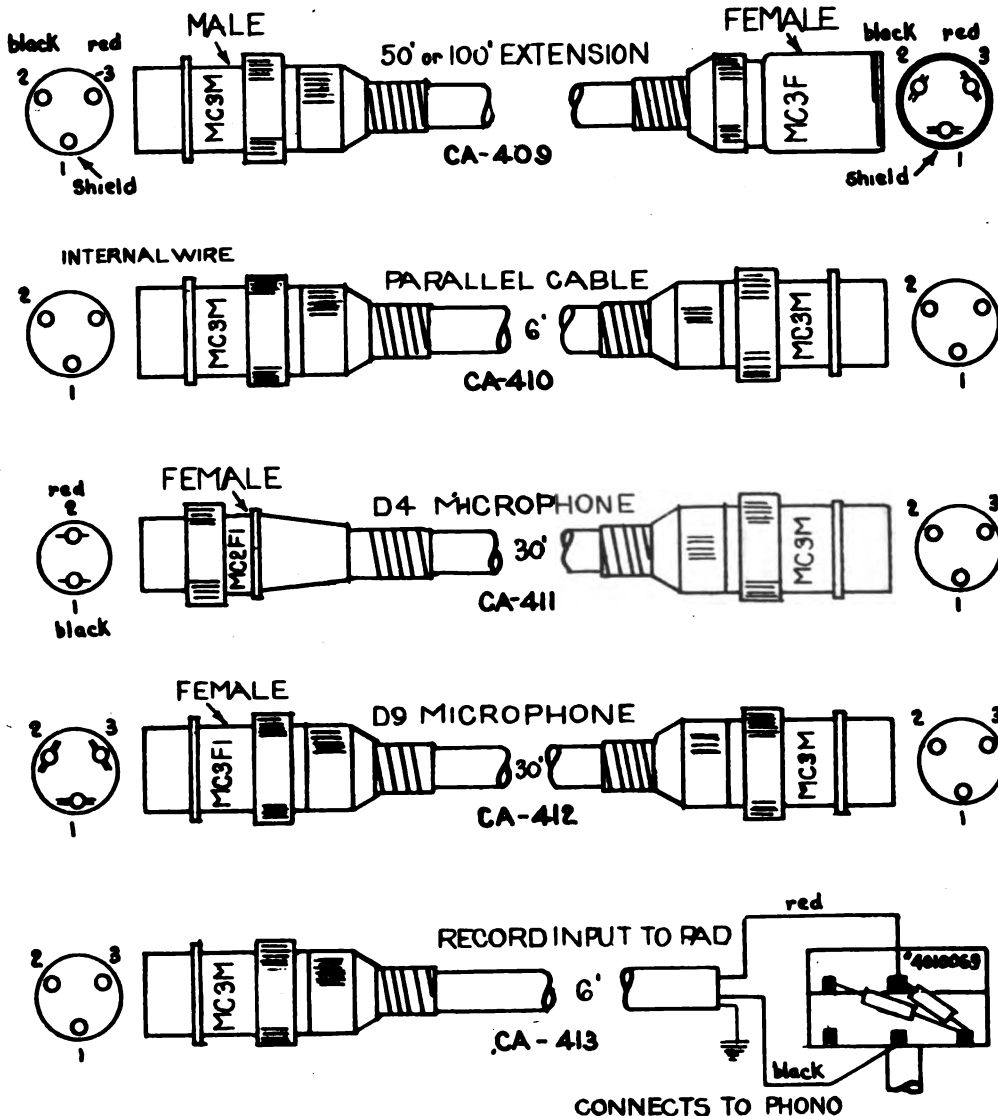

Figure 11. Public Address Set PA-1-F, microphone connector assemblies.
**14. CONNECTING MICROPHONES** (fig. 11). Remove the proper microphone from its compartment in the cable box. Select either floor or desk stand and screw the microphone securely onto the stand. Attach the microphone connecting cable (30 feet long) to the microphone and tighten the knurled nut securely. Connect the other end of this cable, which has the male fitting, to the MICROPHONE receptacle. If more cable is necessary, connect the 50-foot or 100-foot microphone extensions, or both, between the